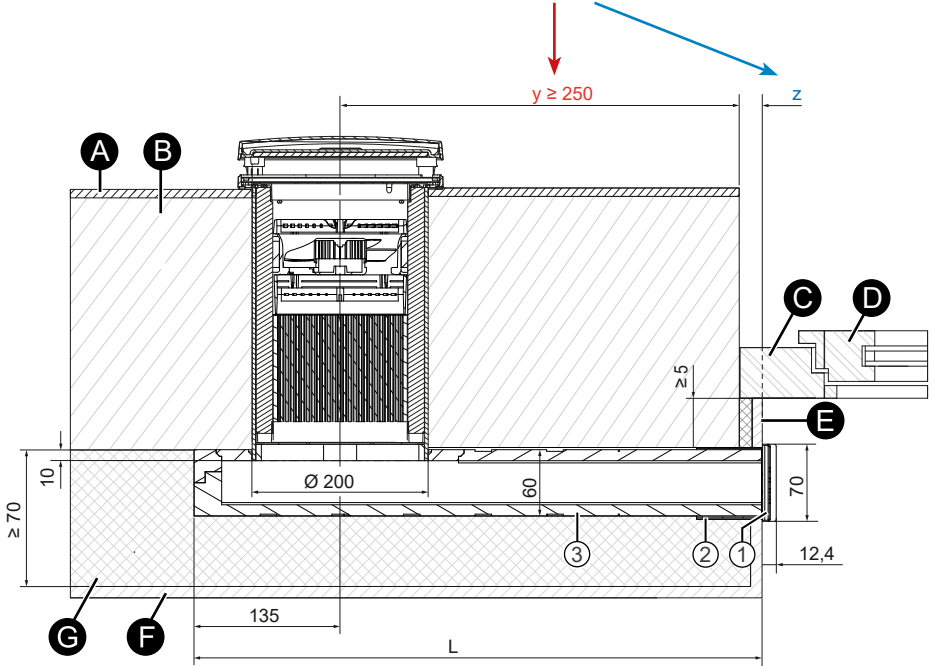

Figure 13: Sectional drawing showing the iv4-Zero Corner ventilation unit (top view) as an example
2) 200 mm: See sectional drawing (16 f., Fig. 13/14)